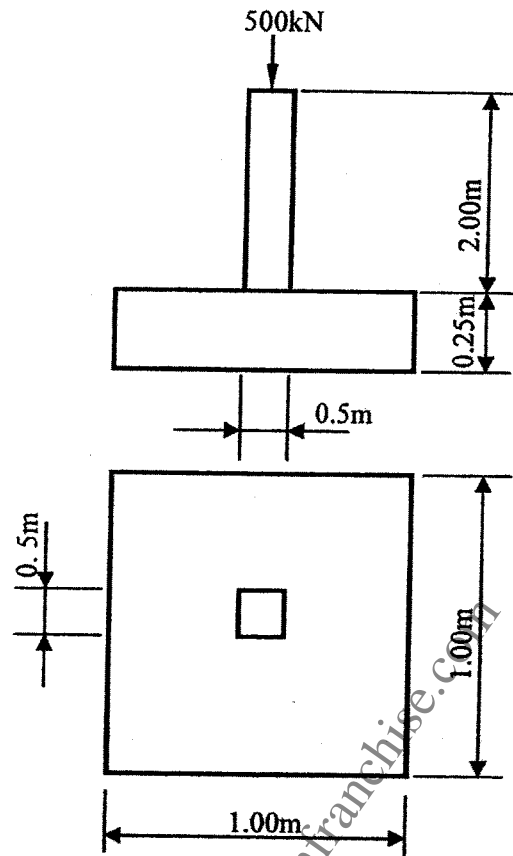

Fig. 1
- (c) Figure 1 shows a brick pier which supports a load of 500 KN. The pier is 0.5 x 0.5 m in section and 2 m high. If it rests on a concrete foundation 1 m square and 0.25 m thick. Determine the value of the support reaction provided by the ground. (10 marks)